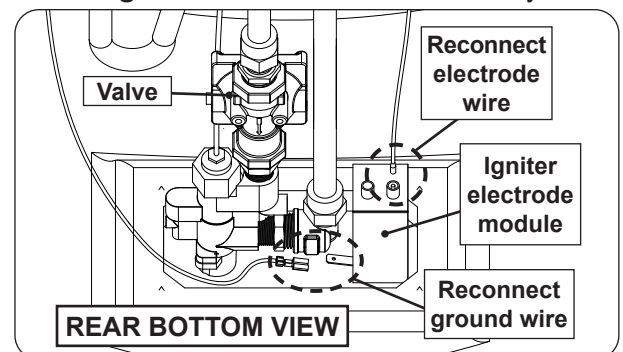

Fig. 33-5 Reconnect wires to electrode module
2. Locate the electrode wire and reconnect it to the round-pin terminal found on the back of the igniter electrode module. Then locate the ground wire and reconnect it to the 1/4" quick-connect found on the side of the igniter electrode module (just behind the plate). See Fig. 33-5.